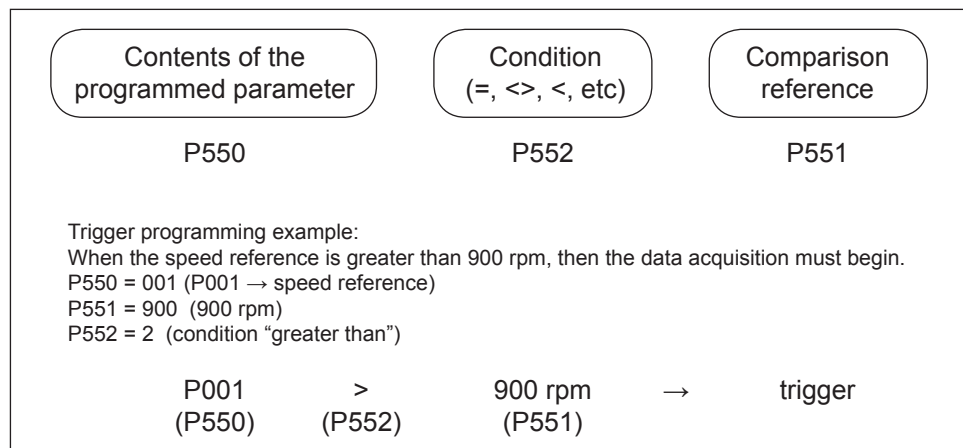

Figure 6.43 - Trigger programming example
- ☑ The trigger can be programmed in several manners. Any MVW-01 available parameter can be used as trigger, and this parameter is programmed in P550. The value of the parameter programmed in P550 is compared to a reference set by the user in the parameter P551. The type of comparison between the parameter and the reference is established programming P552 and can be =, <>, >, <, inverter fault or binary selection(1) (or bit mask). When the comparison condition is fulfilled, the storage of the trace channels is triggered (refer to the figure 6.43 example).
| P552Trigger Condition | 0 to 20[ 4 ]-              | <p><input checked="" type="checkbox"/> Refer to P550.</p> <p><input checked="" type="checkbox"/> With the factory default programming (refer to the Trace function programming example, figure 6.43) the trigger is defined as a fault trip.</p> <p><input checked="" type="checkbox"/> Trace function trigger condition:</p> <p style="text-align: center;">Table 6.61 - Trace function trigger condition</p> <table border="1" style="width: 100%; border-collapse: collapse;"> <thead> <tr> <th style="width: 10%;">P552</th> <th colspan="3">Trigger condition</th> </tr> </thead> <tbody> <tr><td>0</td><td colspan="3">P550* = P551</td></tr> <tr><td>1</td><td colspan="3">P550* ≠ P551</td></tr> <tr><td>2</td><td colspan="3">P550* &gt; P551</td></tr> <tr><td>3</td><td colspan="3">P550* &lt; P551</td></tr> <tr><td>4</td><td colspan="3">Fault trip</td></tr> <tr> <th>-</th> <th>Binary selection (bit mask)</th> <th>Respective DI(P550 = 12)</th> <th>Respective DO(P550 = 13)</th> </tr> <tr><td>5</td><td>P550* bit 0 = P551</td><td>DI8</td><td>-</td></tr> <tr><td>6</td><td>P550* bit 1 = P551</td><td>DI7</td><td>RL5</td></tr> <tr><td>7</td><td>P550* bit 2 = P551</td><td>DI6</td><td>RL4</td></tr> <tr><td>8</td><td>P550* bit 3 = P551</td><td>DI5</td><td>RL3</td></tr> <tr><td>9</td><td>P550* bit 4 = P551</td><td>DI4</td><td>RL2</td></tr> <tr><td>10</td><td>P550* bit 5 = P551</td><td>DI3</td><td>RL1</td></tr> <tr><td>11</td><td>P550* bit 6 = P551</td><td>DI2</td><td>DO2</td></tr> <tr><td>12</td><td>P550* bit 7 = P551</td><td>DI1</td><td>DO1</td></tr> <tr><td>13</td><td>P550* bit 8 = P551</td><td>DI9</td><td>-</td></tr> <tr><td>14</td><td>P550* bit 9 = P551</td><td>DI10</td><td>-</td></tr> <tr><td>15</td><td>P550* bit 10 = P551</td><td>-</td><td>-</td></tr> <tr><td>16</td><td>P550* bit 11 = P551</td><td>-</td><td>-</td></tr> <tr><td>17</td><td>P550* bit 12 = P551</td><td>-</td><td>-</td></tr> <tr><td>18</td><td>P550* bit 13 = P551</td><td>-</td><td>-</td></tr> <tr><td>19</td><td>P550* bit 14 = P551</td><td>-</td><td>-</td></tr> <tr><td>20</td><td>P550* bit 15 = P551</td><td>-</td><td>-</td></tr> </tbody> </table> <p>* Contents of the parameter programmed at P550.</p> <p>Note: The binary selection conditions (5 to 20) are only effective if the parameter programmed in P550 is 12 or 13 (P012 or P013).</p> | P552                         | Trigger condition |  |  | 0 | P550* = P551 |  |  | 1 | P550* ≠ P551 |  |  | 2 | P550* > P551 |  |  | 3 | P550* < P551 |  |  | 4 | Fault trip |  |  | - | Binary selection (bit mask) | Respective DI(P550 = 12) | Respective DO(P550 = 13) | 5 | P550* bit 0 = P551 | DI8 | - | 6 | P550* bit 1 = P551 | DI7 | RL5 | 7 | P550* bit 2 = P551 | DI6 | RL4 | 8 | P550* bit 3 = P551 | DI5 | RL3 | 9 | P550* bit 4 = P551 | DI4 | RL2 | 10 | P550* bit 5 = P551 | DI3 | RL1 | 11 | P550* bit 6 = P551 | DI2 | DO2 | 12 | P550* bit 7 = P551 | DI1 | DO1 | 13 | P550* bit 8 = P551 | DI9 | - | 14 | P550* bit 9 = P551 | DI10 | - | 15 | P550* bit 10 = P551 | - | - | 16 | P550* bit 11 = P551 | - | - | 17 | P550* bit 12 = P551 | - | - | 18 | P550* bit 13 = P551 | - | - | 19 | P550* bit 14 = P551 | - | - | 20 | P550* bit 15 = P551 | - | - |